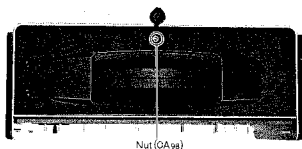

Fig. 9
10. Remove the one (1) frame antenna jack nut, as shown in fig. 9